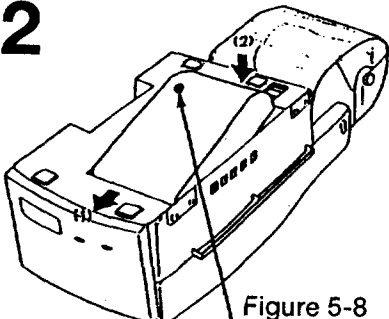

Figure 5-8
Remove the battery pack and install the new one as shown in figure 5-8. Make sure you correctly install the battery paying attention to the green seals, then first slide the side of the battery pack (1) into the battery box and then push down the side (2) until it locks in place.